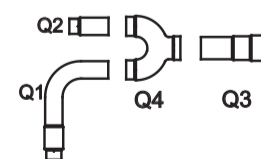
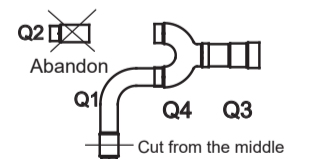

Fig.1
Fig.2
- When selecting model FQZHW-02N1E, the actual object as display in Fig.1, and then suppose that the outlet pipe of the machine is  $\Phi 31.8$ , main pipe is  $\Phi 38.1$ . As display in Fig.2, cut the standalone connecting pipe Q1 of the branch pipe component.
- As display in Fig.2, weld the standalone connecting pipe Q1, Q3 with the U-shape three direct links Q4; abandon the standalone connecting pipe Q2 because selected pipe size  $\Phi 31.8$  can directly connect with the un-welded side of U-shape three direct links.